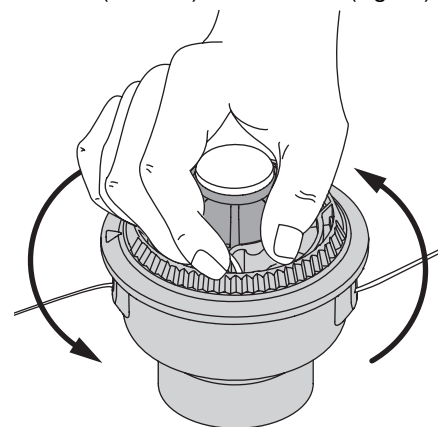

**Fig. 20**
6. Pull the line from the outer spool until the line is tight against the inner reel (Fig. 20).